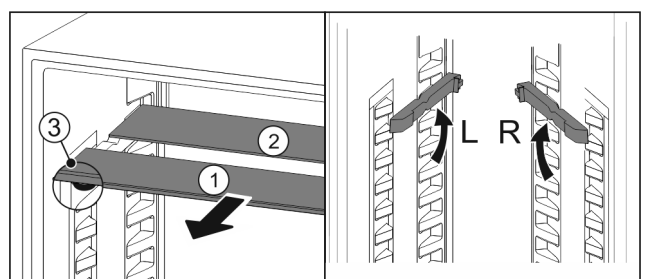

Fig. 61
- ▶ Pull the glass panels out *Fig. 61 (1)* from the front, one at a time.
- ▷ The glass panel *Fig. 61 (1)* and trim strip are at the front.
- ▷ The stops *Fig. 61 (3)* point down.